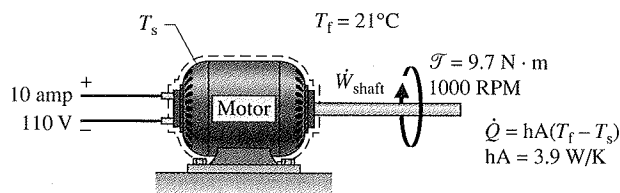

Fig. P2.62
2.62 An electric motor draws a current of 10 amp with a voltage of 110 V, as shown in Fig. P2.62. The output shaft develops a torque of 9.7 N · m and a rotational speed of 1000 RPM. For operation at steady state, determine for the motor